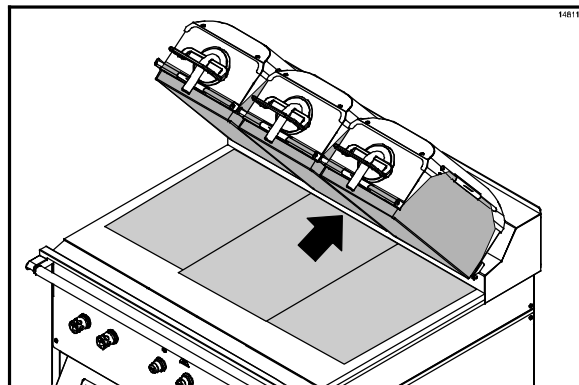

Figure 19
11. Align the back edge of the third lower release sheet with the back splash and middle of the grill. The release sheet will overlap the edge of the other two release sheets. (See Figure 19.)